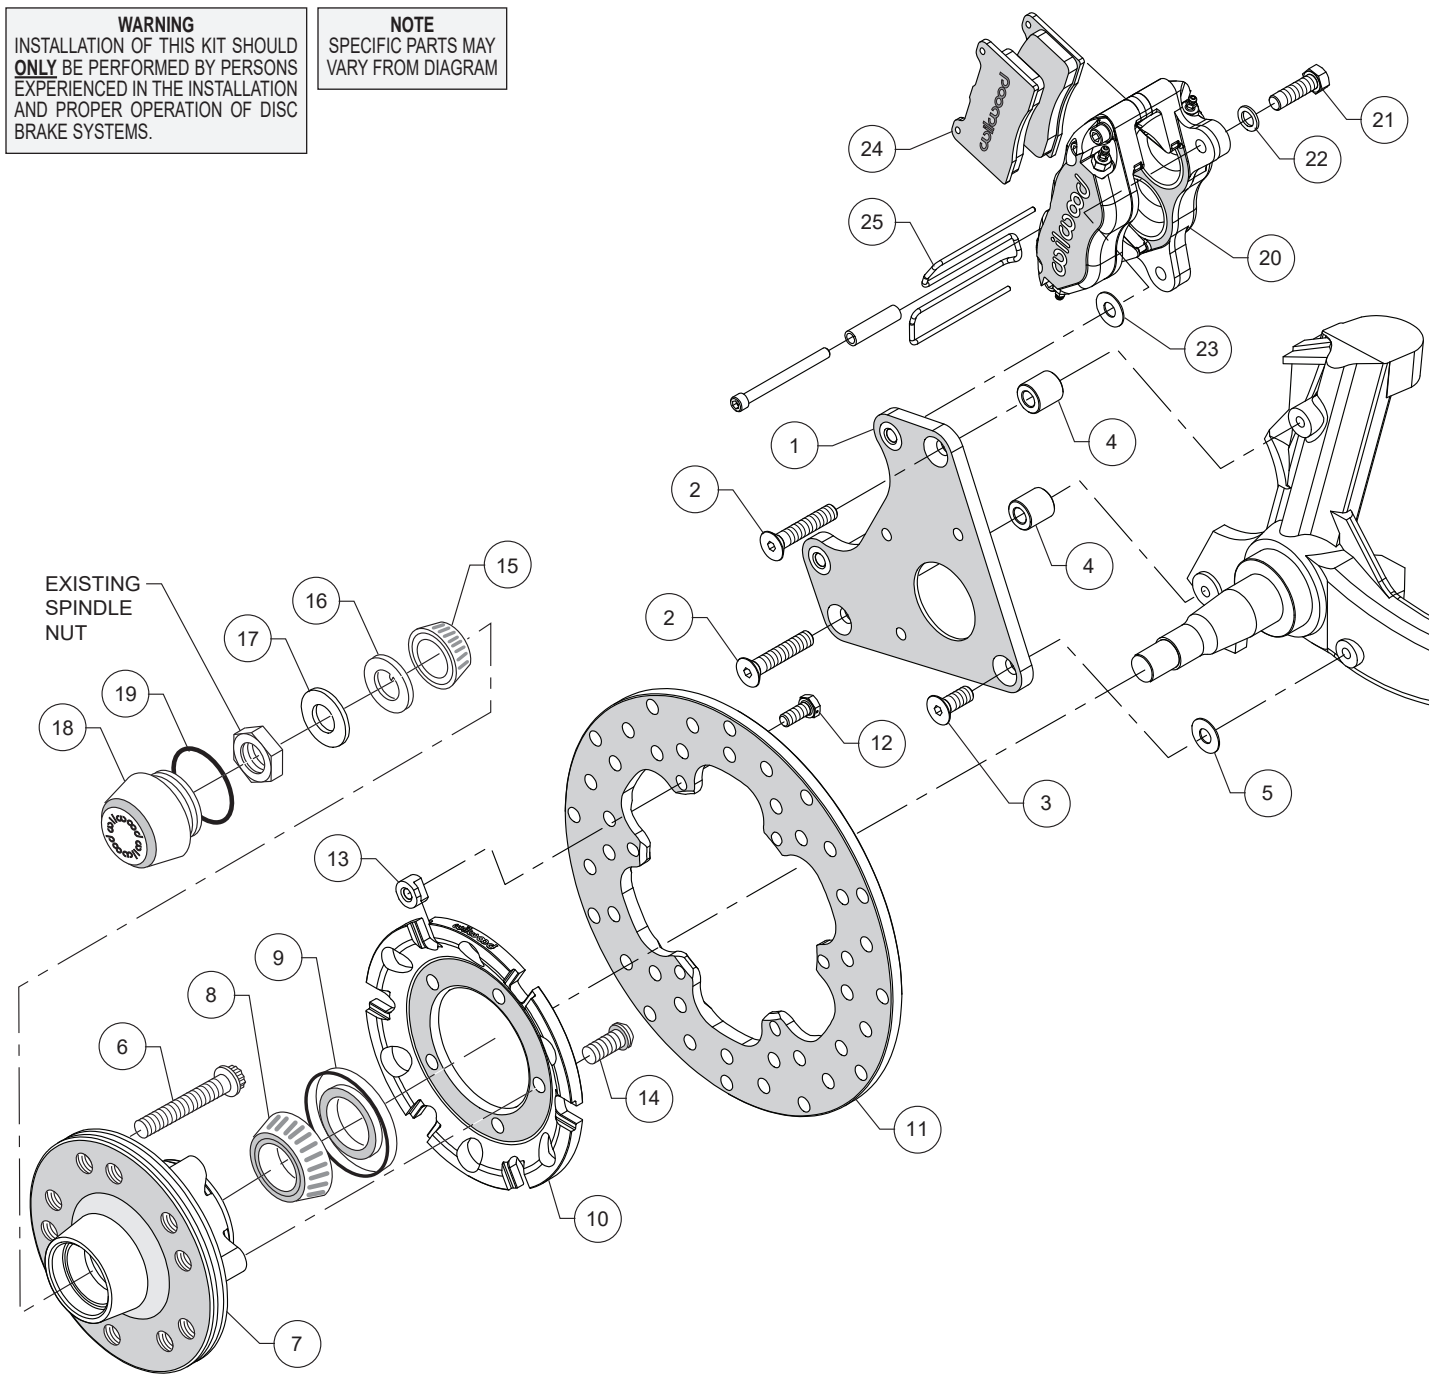
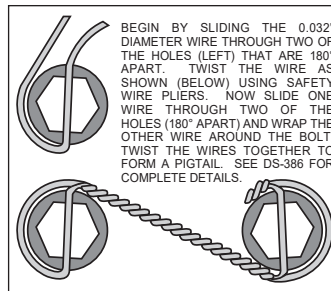
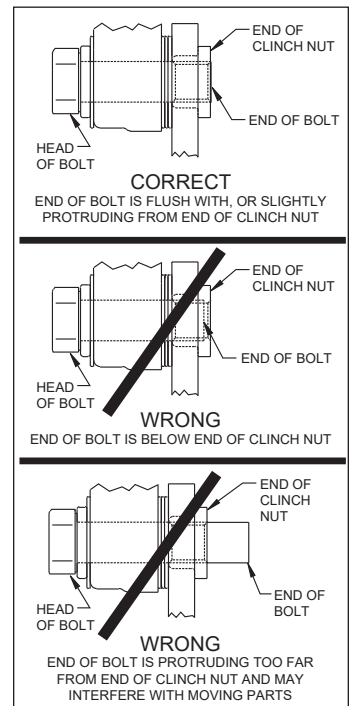

Figure 2. Typical Installation Configuration
Figure 4. Safety Wire Diagram
Figure 5. Clinch Nut Engagement Diagram
Assembly Instructions (numbers in parenthesis refer to the parts list, on the preceding page and Figure 2): **CAUTION:** All mounting bolts must fully engage clinch nuts. Be sure to check that all bolts are either flush or protruding through flanged side of clinch nut after shimming, Figure 5.
- Orient the caliper mounting bracket (1) as shown in Figure 2 and Photo 1. Attach using bolts (2), bolt (3), spacers (4) and washer (5), Figure 2. Temporarily tighten the mounting bolts. Ensure that the flanged heads of the clinch nuts in the bracket are facing outboard, Photo 1. **NOTE:** The bracket must fit squarely against the mounting points on the spindle. Inspect for interference from casting irregularities, machining ridges, burrs, etc. Remove bolts one at a time, apply red *Loctite*® 271 to threads and torque bolts (2 and 3) to 30 ft-lbs.
- Install wheel studs (6) into the hub (7), Photo 2. Torque to 77 ft-lb. **NOTE:** There are two five lug patterns in the hub (5 x 4.50 and 5 x 4.75). Ensure the correct hub stud pattern is being used to fit the wheel application.
- Pack the large inner bearing cone (8) with high temperature disc brake bearing grease (available from your local auto parts store) and install into the backside of the hub (7), Photo 3.
- Install the grease seal (9) by pressing into the backside of the hub (7), flush with the end of the hub, Photo 3.
- Orient the rotor (11) and the rotor adapter (10) as shown in Figure 2 and Photo 4. Attach the rotor to the adapter using bolts (12) and T-nuts (13). Using an alternating sequence, apply red *Loctite*® 271 to the threads, and torque to 220 in-lb. Safety wire bolts using standard 0.032 inch diameter stainless steel safety wire as shown in Figure 4. Refer to Wilwood's data sheet DS-
- Mount the adapter/rotor assembly (10 and 11) to the hub (7) using bolts (14), as shown in Figure 2 and Photo 5. Using an alternating sequence, apply red *Loctite*® 271 to the threads, and torque to 45 ft-lb.
- Pack the small outer bearing cone (15) with high temperature disc brake bearing grease and install into hub (7). Slide the hub/rotor assembly onto the spindle. Secure using spindle washer (16) and OEM spindle nut, Photo 6. **NOTE:** Because of a tolerance variation among spindles, it may be necessary to install one or two shim washers (17) between the spindle washer (16) and the spindle nut if the spindle nut will not tighten down all the way. Adjust bearing per OEM specifications. Install saved OEM nut lock (if any) and a new cotter pin (not included).
- Screw dust cap (18) into hub (7), Photo 7. Friction created by the o-ring (19) on the dust cap keeps it from unscrewing. **NOTE:** The O.D. of the existing OEM spindle washer may be larger than the I.D. of the dust cap not allowing it to seat against the hub face. Therefore, use the spindle washer (16) supplied with the kit instead of the OEM washer.
- NOTE:** Please reference the caution statement at the beginning of the assembly instructions. Mount the caliper (20) onto the caliper mounting bracket (1) using bolts (21) and washers (22), as shown in Figure 2. Initially place one .035" thick shim (23) on each bolt between the caliper and the bracket, Photo 8. Temporarily tighten the mounting bolts and view the rotor (11) through the top opening of the caliper. The rotor should be centered in the caliper, Photo 9. If not, adjust by adding or subtracting shims (23) between the bracket and the caliper. Always use the same amount of shims on each of the two mounting bolts. **NOTE:** The end of each bolt must be flush with or slightly protruding from the head of the clinch nut, as shown in Figure 5. If necessary place spare shims (23) between washer (22) and caliper mounting ear to achieve the proper clinch nut engagement. Once the caliper alignment and clinch nut engagement are correct, remove the bolts one at a time, apply red *Loctite*® 271 to bolt threads, and torque to 40 ft-lb. For an added measure of security, the bolts may be safety wired using standard 0.032 inch diameter stainless steel safety wire as shown in Figure 4. Refer to Wilwood's data sheet DS-386 (available at www.wilwood.com/Pdf/DataSheets/ds386.pdf) for complete safety wire installation instructions.
- Install the disc brake pads (24) into the caliper, with the friction material facing the rotor (11), Photo 10, and secure in place using pad retainer clip (25), Photo 11.